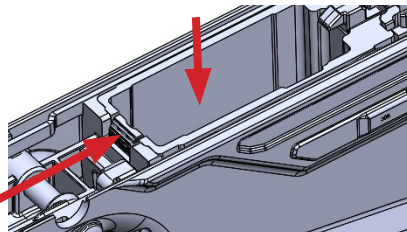

Fig. g-1
- Push the magazine release while pushing the magazine conversion latch in and down. The magazine spacer should slide out the bottom of the magazine well. (Fig. g-1)